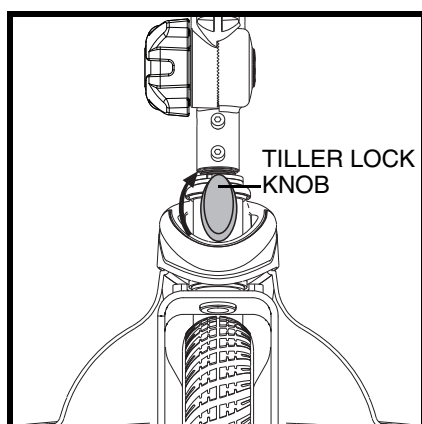

Figure 19. Tiller Lock Knob (Locked)
2. Lock the tiller in the straight ahead position by pushing the tiller lock knob in and turning it clockwise 90°. See **figure 19**. The front wheel must face forward in order to lock the tiller.